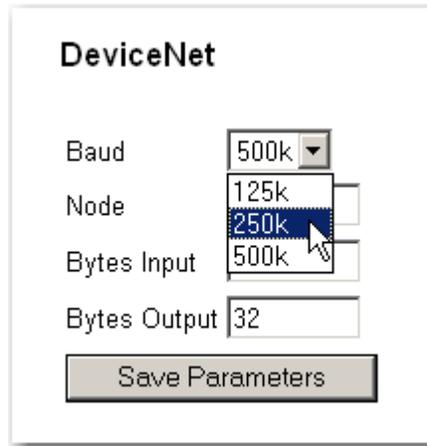

FIG. 217 DEVICENET SETUP/SELECTING BAUD RATE
Step 2. Click on the Baud Pull Down List. (See Fig.217)